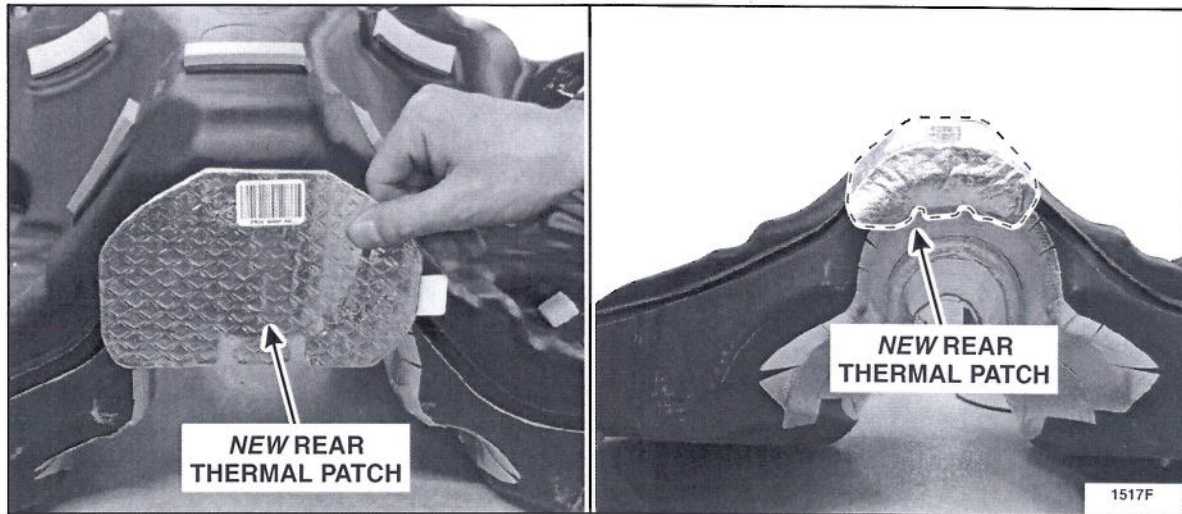

FIGURE 6
7. Apply *new* thermal patch to the rear of the tank. See Figure 6.